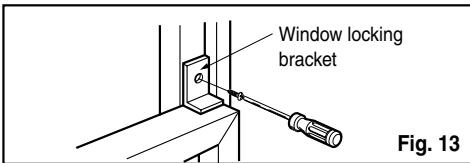

Fig. 13
7. Attach the Window locking bracket with a screw (Type C.) (See Fig. 13)